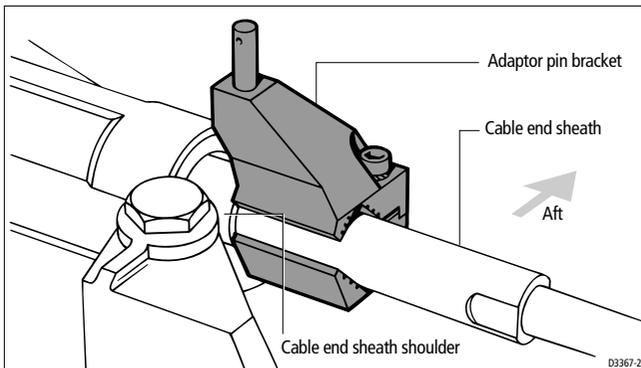

Figure 5: Fitting the adaptor pin bracket (Volvo)
2. Fit the adaptor pin bracket to the cable end sheath (see *Figure 5*):